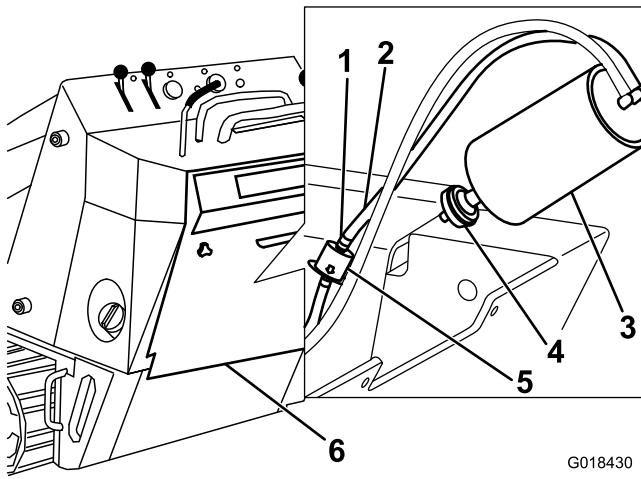

Figure 31
3. Remove and discard the air filter (Figure 31).
4. Install a new filter onto the carbon canister (Figure 31).
3. Move the spring-type hose clamps on both sides of the carbon canister purge-line filter away from the filter (Figure 31).
4. Remove and discard the purge-line filter (Figure 31).
5. Install a new filter into the hose with the arrow on the filter pointing away from the carbon canister and secure it with the hose clamps (Figure 31).